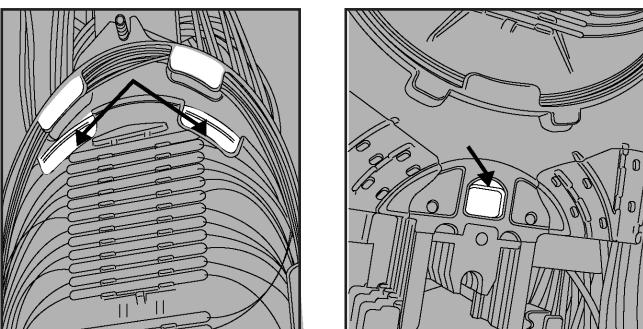

Figure 19
19. Protect the spliced fibers by fitting a tray cover to each completed SLIDE-N-LOCK splice tray. For FibreGuard™ 800 & 650 closures, locate the front cover indentations between the tray tabs and friction fit a larger third indentation into the bottom recess. (Figure 19)